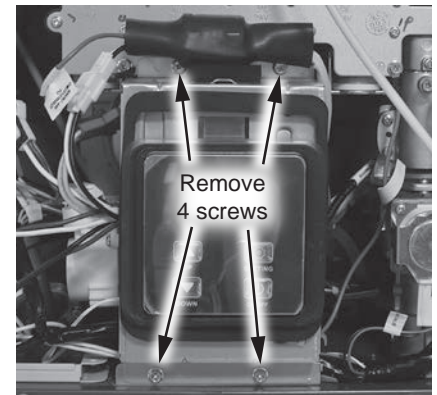

Figure 110 - Removing UIM and bracket screws
- 7 Locate the User Interface Module (UIM) and bracket. Remove the four screws securing bracket to the water heater. Place screws aside in a safe place for reinstallation. See Figure 110.